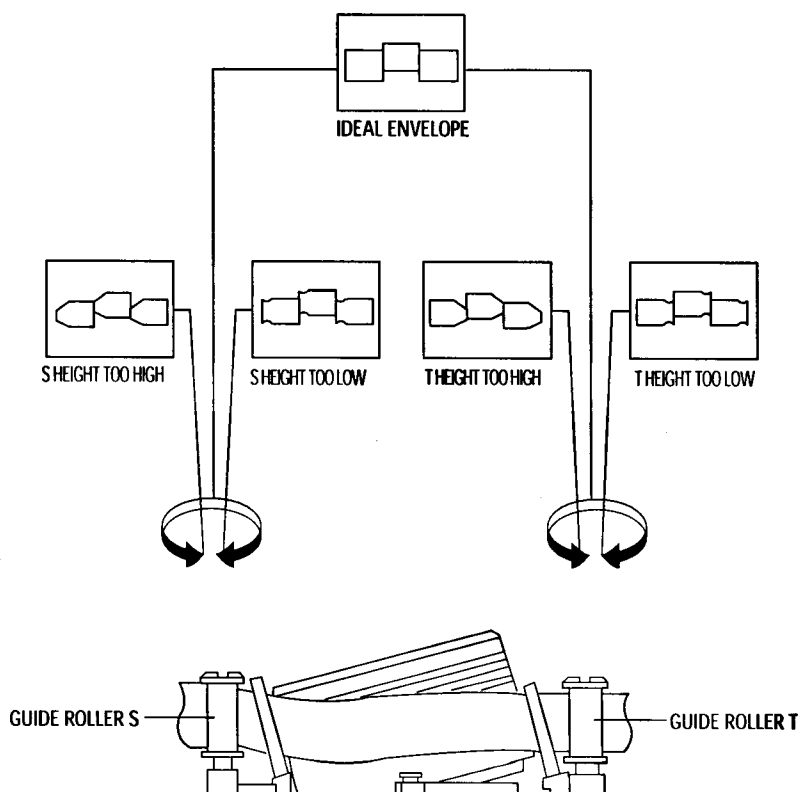

Fig. 2-8 Guide Roller S, T Height Adjustment
- 8) Turn the guide roller heads with a flat head (■) driver to obtain a flat video RF envelope as shown in Fig. 2-8.